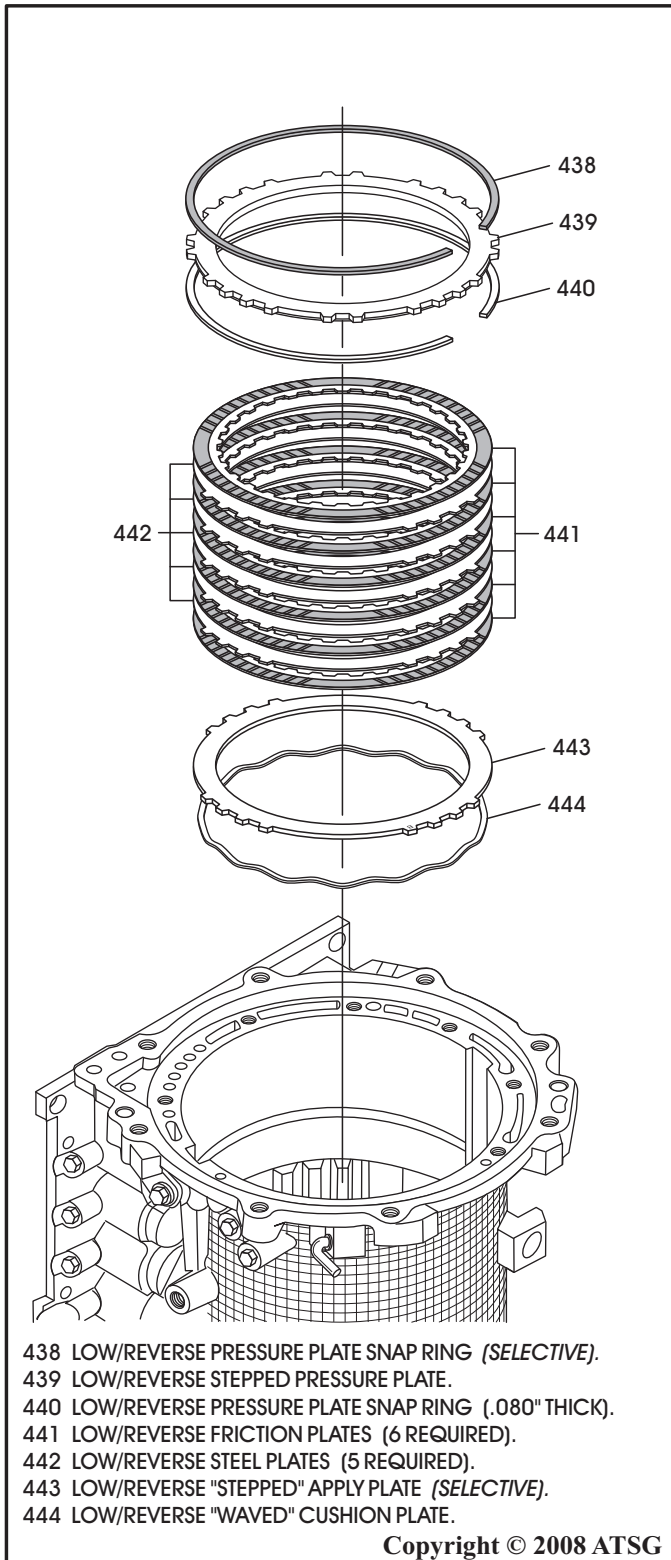

Figure 51
43. Remove low/reverse pressure plate selective snap ring, as shown in Figure 51.
44. Remove low/reverse pressure plate and one friction plate, as shown in Figure 51.
45. Remove low/reverse pressure plate .080" snap ring, as shown in Figure 51, and tag for ID.
46. Remove low/reverse clutch plates, as shown in Figure 51.
47. Remove low/reverse clutch apply plate and the cushion spring, as shown in Figure 51.